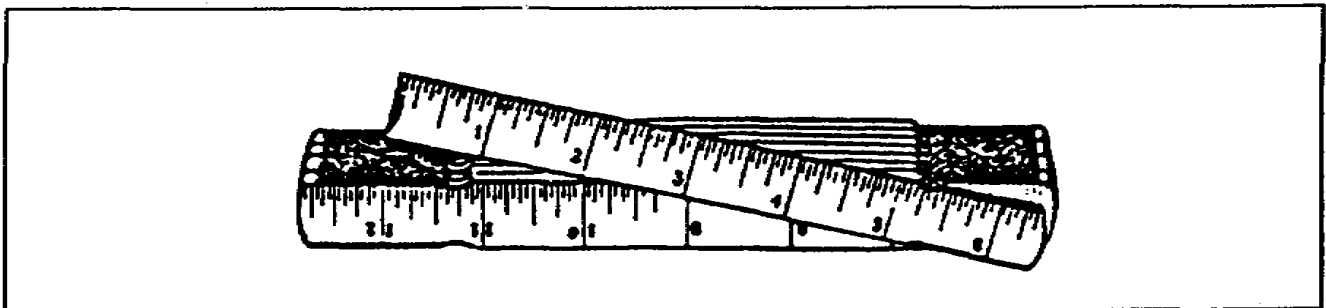

Figure 2-43. Folding rule
a. Folding Rule. A folding rule is made from boxwood and has a concealed joint or rivet that holds it stiff and rigid when opened. Usually 6 feet in length, it is marked off in feet and inches and graduated in sixteenths of an inch. Figure 2-43 shows the folding rule most often used by carpenters.